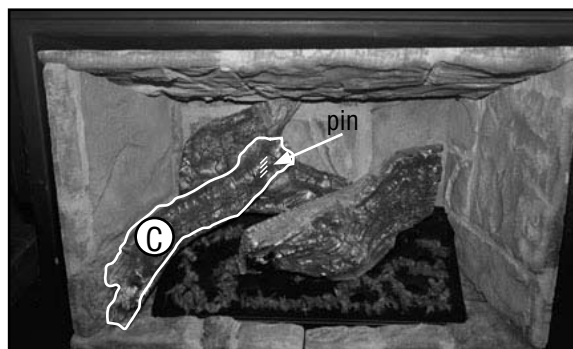

Figure 24
4. Place left log (C) on pin in back. Push log against left side of refractory in front. See **Figure 24**.